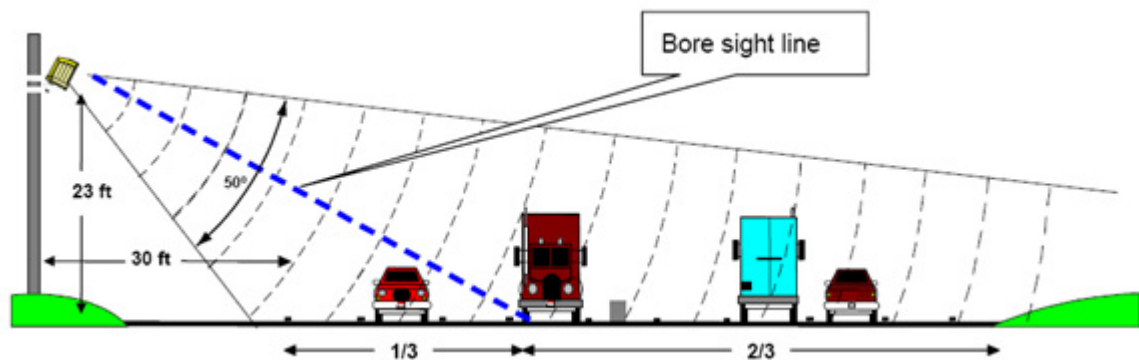
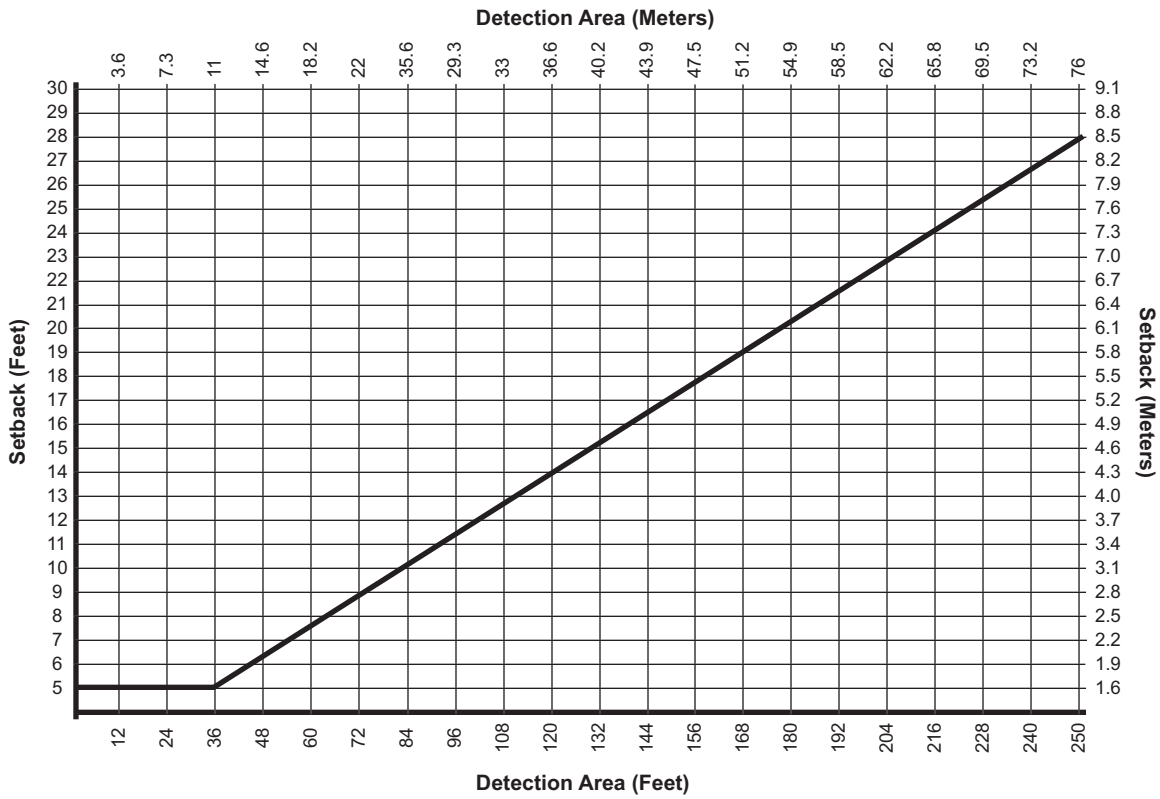
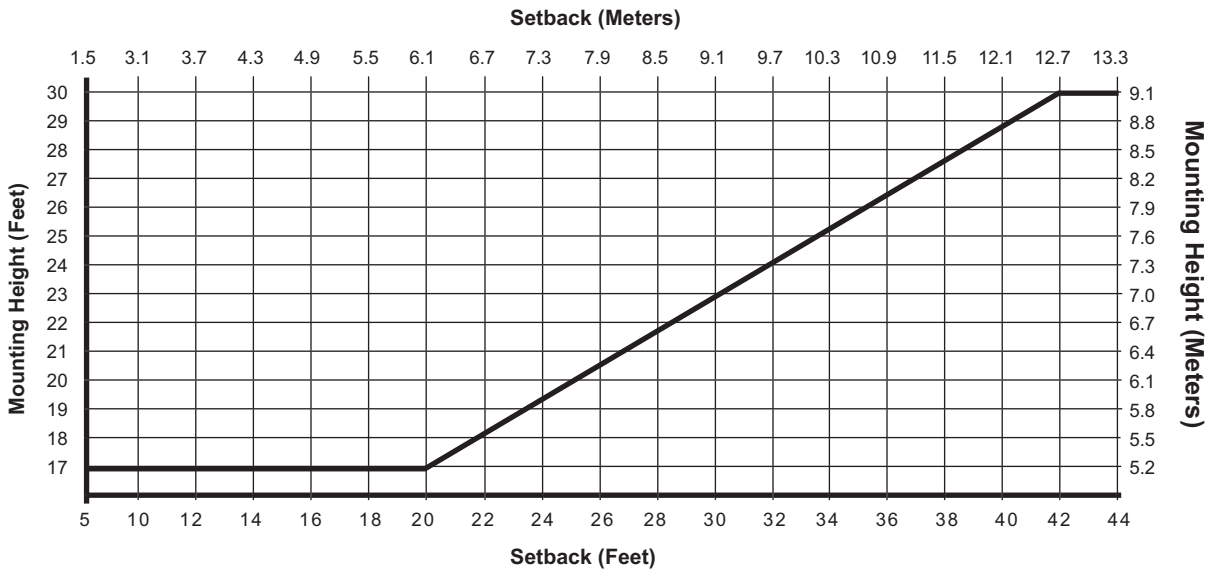

Figure 2-3: Autoscope RTMS Sx-300 Initial Aiming
Figure 2-4: Setback Distance Chart
Figure 2-5: Mounting Height Chart.
Use the diagrams in Figure 2-3, Figure 2-4, and Figure 2-5 to determine the setback required to monitor a given number of lanes. The correct installation height can be determined once the setback is set. Height is measured relative to the road surface of the detection area. Do not measure height from the bottom of the mounting pole.
5. Tilt the Autoscope RTMS Sx-300 so that the top of the sensor is aimed to the first 1/3 of the monitored lanes (see Figure 2-3 on page 2-6).